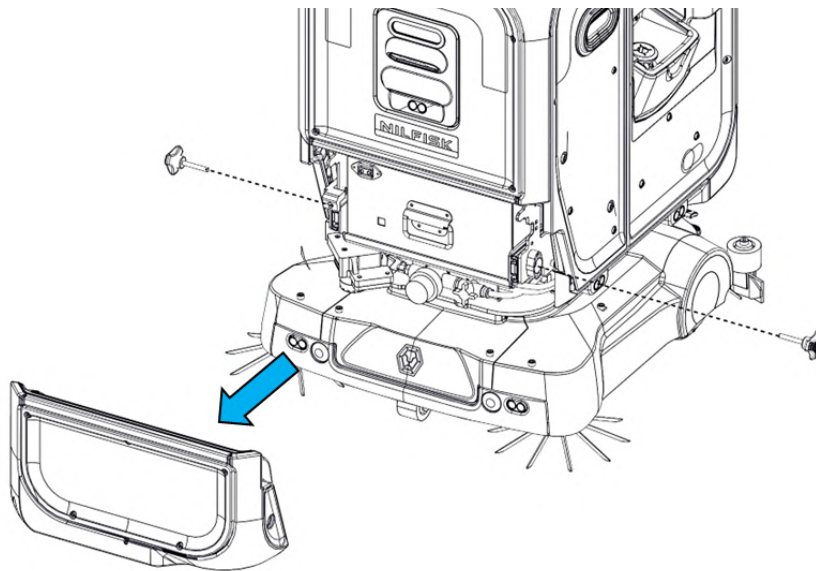

FIGURE 11-1
3. Remove the bottom front cover by unscrewing the 2 blue knobs until it can be removed as shown (**Fig.11-1**).